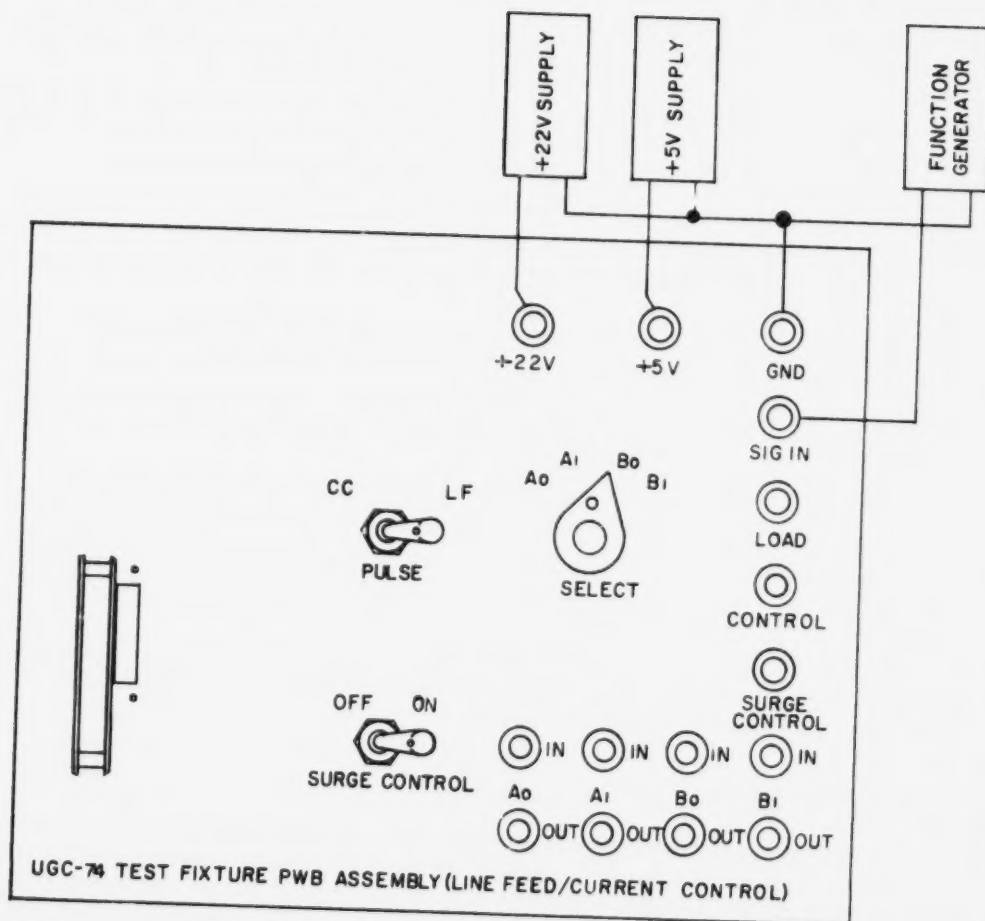

Figure 6-18. MOTOR DRIVE AND CURRENT CONTROL BOARD
c. Test Setup Procedure for Motor Drive (Line Feed) and Current Control Board Assembly (fig. 6-18).
- Place test fixture SURGE CONTROL switch to OFF (opens circuit to pin H and SURGE CONTROL (TP)).